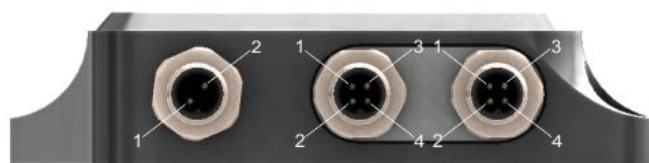
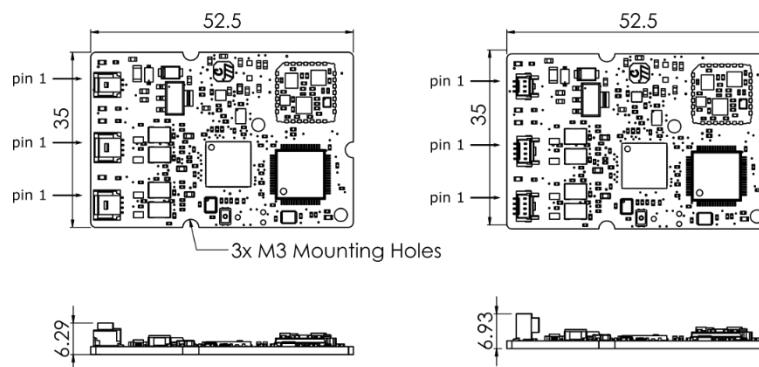

Figure 5: Connector pin locations HSD-version
Figure 8: ONE-SERIES OEM drawing
For the OEM version, the location of pin number 1 can be found in Figure 8. The pin location for the HSD-version can be found in Figure 5.
The PCB version of the ONE-SERIES can be mounted according to the dimensions per drawing of Figure 8 and the following instructions:
- The dimensions and location of the mounting holes can be found in Figure 8.